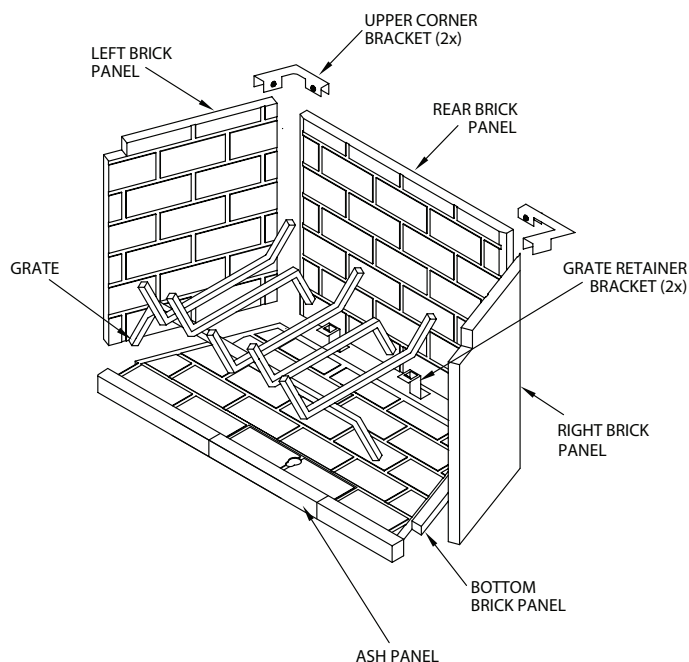

Figure 26- Installing Refractory Panels
5. Install upper corner brackets and tighten set screws (see Figure 26).
6. Install grate by placing rear legs into slots in the grate retainer (see Figure 26)